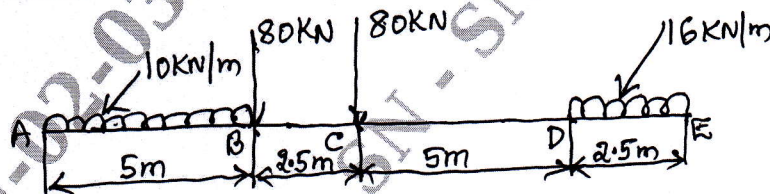

Fig.Q6(b)
b. Draw shear force and bending moment diagrams for the beam shown in Fig.Q6(b). Locate point of contraflexure.